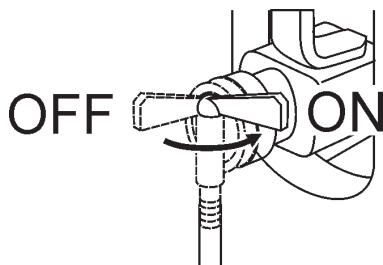

Figure 43. On-board Water Tank ON/OFF Valve
3. Turn water source on (Figure 43).